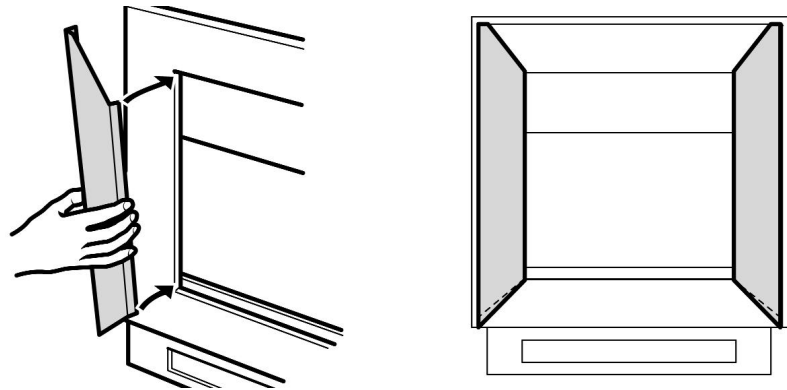

Figure 30 Fitting the side trims.
7. Locate the two side trims as in figure 30.